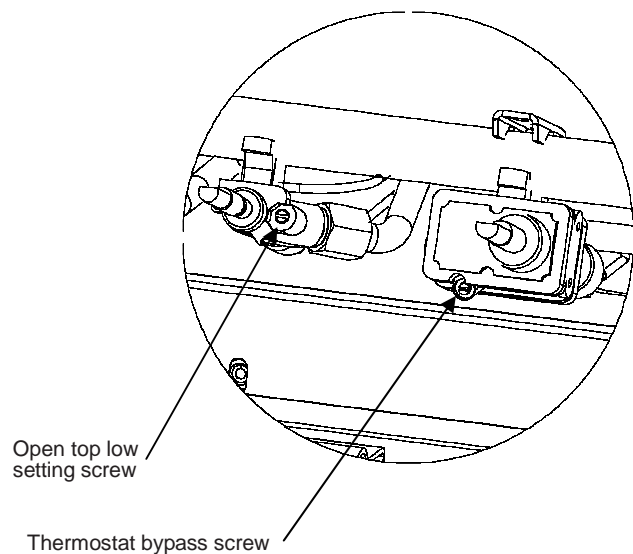

Figure 7
3.1.2 Open Top Low setting Screw - To Replace (Figure 7)
3.1.4 Thermostat - To Replace Bypass Screw (Figure 7)